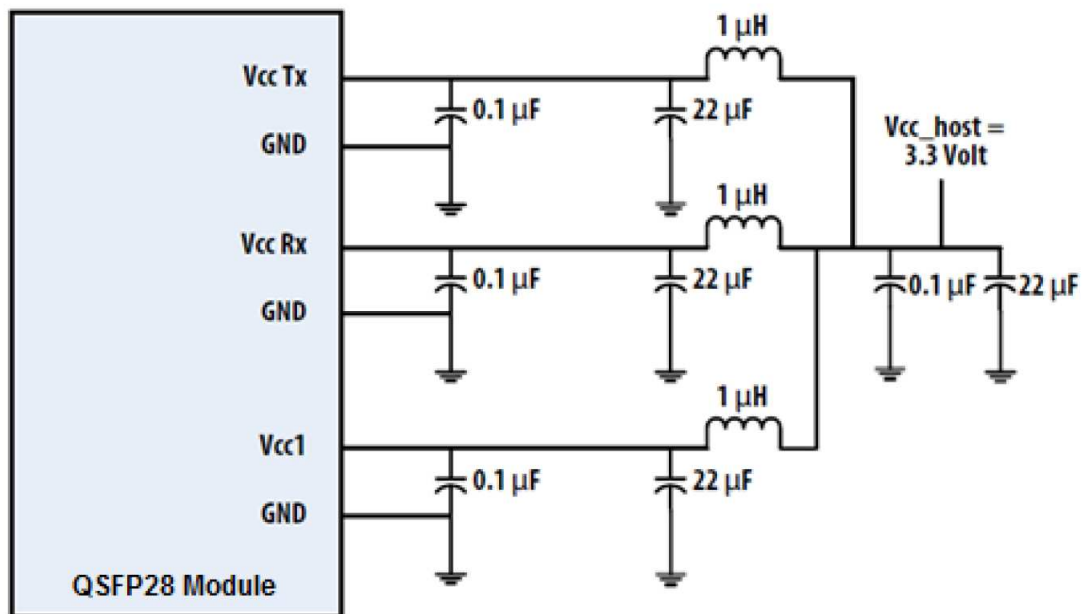

Figure 3. Recommended Power Supply Filter
2. VccRx, Vcc1 and VccTx are the receiving and transmission power suppliers and shall be applied concurrently. Recommended host board power supply filtering is shown in Figure 3 below. Vcc Rx, Vcc1 and Vcc Tx may be internally connected within the QSFP28 transceiver module in any combination. The connector pins are each rated for a maximum current of 1000mA.